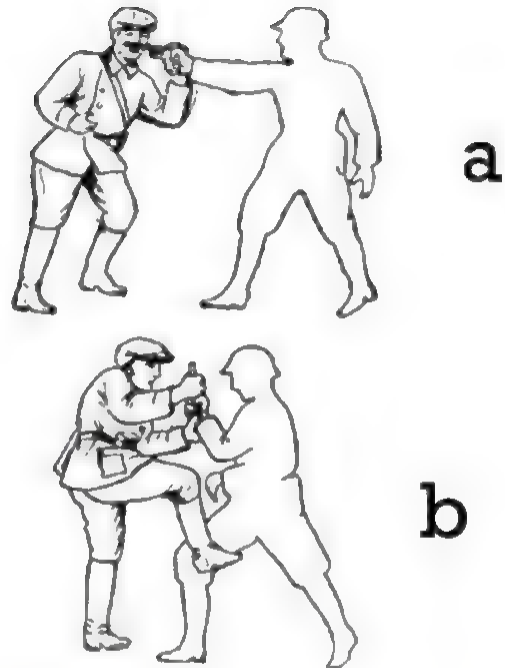

Figure 109. How to take away a pistol.
**How to take away a pistol.** While the enemy is threatening you with a pistol from a short distance, step forward and to the left with your left foot while moving your body left simultaneously. Deflect the armed hand of the enemy away from you with your left arm then seize his hand (figure 109 a). Immediately grab the pistol barrel with your right hand and sharply twist it to break the enemy’s index finger. While doing that, kick the enemy with your leg (figure 109b).